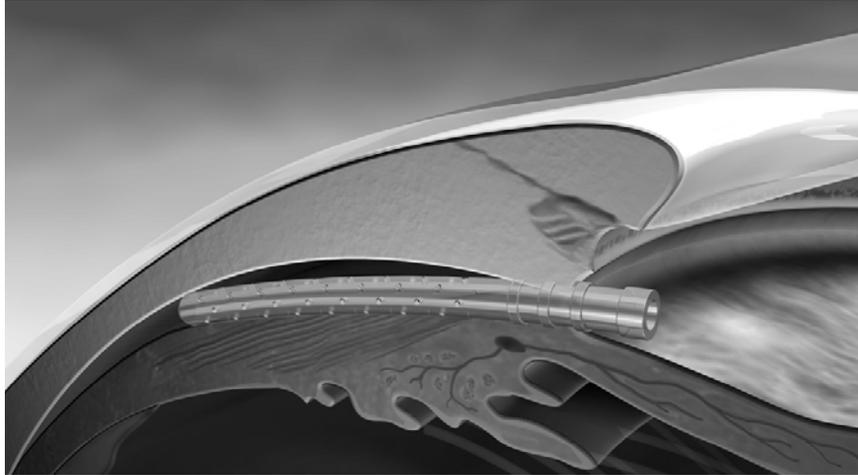

Figure 5: CyPass® Micro-Stent at Implant Site
16. Continue to advance the guidewire until only the most proximal retention ring and the collar of the CyPass® Micro-Stent are located in the AC (Figure 5). An additional confirmatory placement landmark is when the top of the CyPass® Micro-Stent collar is even with Schwalbe's line. In this position, the distal tip of the Micro-Stent should be resting against the sclera in the supraciliary space anterior to both retinal and choroidal tissues.